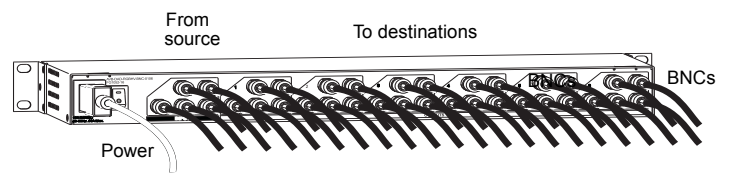

FIG. 5 Attach input and output connectors (1:6 model shown)
1. Fasten the BNC connectors from the source and destination devices onto the BNC connectors on the module (FIG. 5).